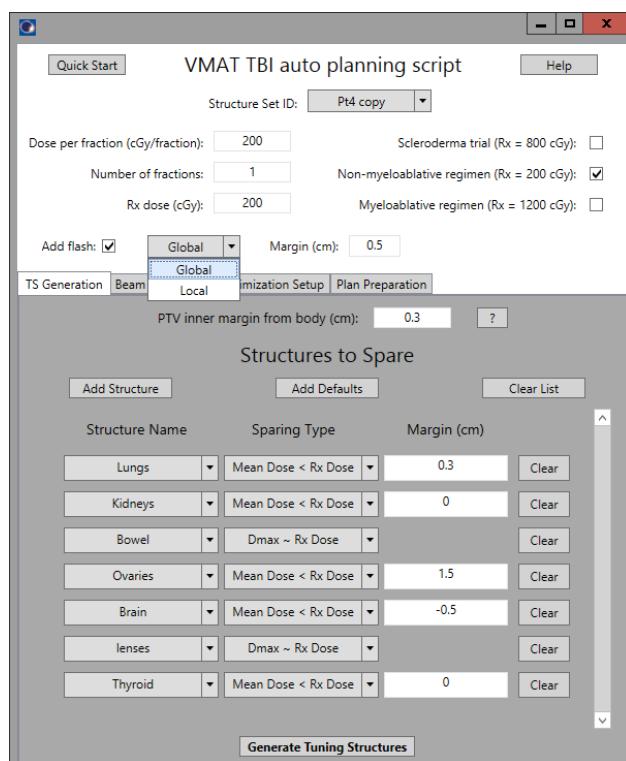

Figure 9: Available options for including flash in the optimization. This option is selected by default with a 0.5 cm margin with the flash type set to Global.
- The user can elect to include "flash" in the optimization by checking the 'Add flash' checkbox. Once this box is checked, a drop-down menu and an added margin textbox will appear in the GUI as shown in Figure 9.